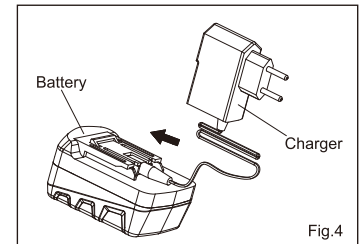

Fig.4
1.2 Connect charger and battery. (Fig.4)
▼ Make sure the battery is connected correctly as Fig4.